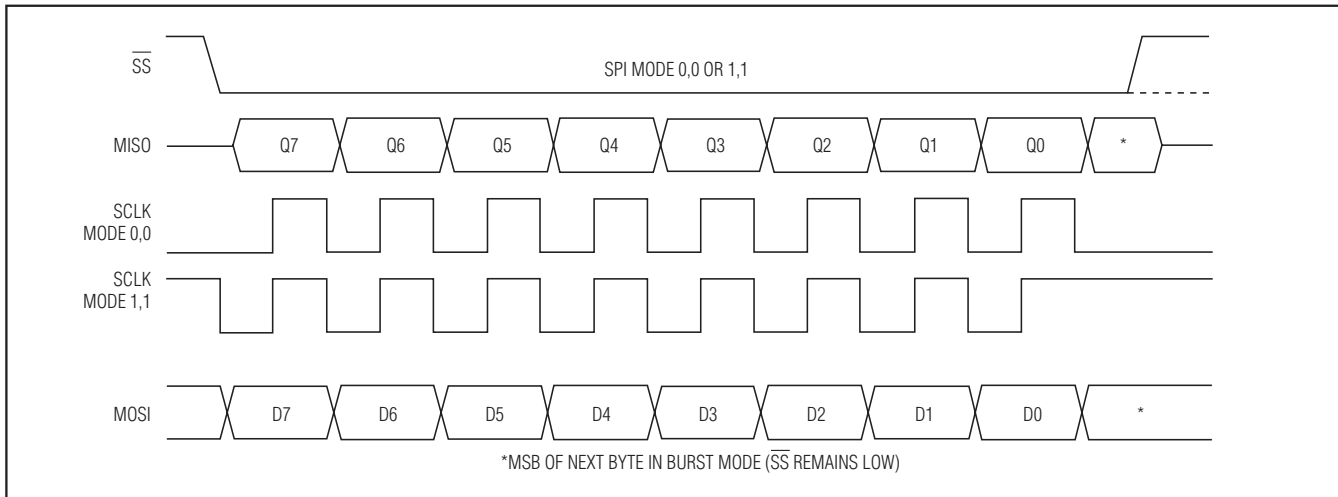

Figure 14. SPI Clocking Modes
The SPI master provides the MAX3420E SCLK signal to clock the SPI interface. SCLK has no low-frequency limit, and can be as high as 26MHz. The MAX3420E changes its output data (MISO) on the falling edge of SCLK and samples input data (MOSI) on the rising edge of SCLK. The MAX3420E ignores SCLK transitions when $\overline{SS}$ is high. The inactive level of SCLK may be low or high, depending on the SPI operating mode (Figure 14).
The MAX3420E SPI interface operates without adjustment in either SPI mode (CPOL = 0, CPHA = 0) or (CPOL = 1, CPHA = 1). No mode bit is required to select between the two modes since the interface uses the rising edge of the clock in both modes. The two clocking modes are illustrated in Figure 14. Note that the inactive SCLK value is different for the two modes. Figure 14 illustrates the full-duplex mode, where data is simultaneously clocked into and out of the MAX3420E.
- (1) When $\overline{SS}$ is high, the MAX3420E is unselected and tri-states the MISO output.
- (2) After driving SCLK to its inactive state, the SPI master selects the MAX3420E by driving $\overline{SS}$ low. The MAX3420E turns on its MISO output buffer and places the first data bit (Q7) on the MISO output (Figure 14).
- (3) The SPI master simultaneously clocks the command byte into the MAX3420E MOSI pin, and USB status bits out of the MAX3420E MISO pin on the rising edges of the SCLK it supplies. The MAX3420E changes its MISO output data on the falling edges of SCLK.
- (4) After eight clock cycles, the master can drive $\overline{SS}$ high to deselect the MAX3420E, causing it to tri-state its MISO output. The falling edge of the clock puts the MSB of the next data byte in the sequence on the MISO output (Figure 14).
- (5) By keeping $\overline{SS}$ low, the master clocks register data bytes out of the MAX3420E by continuing to supply SCLK pulses (burst mode). The master terminates the transfer by driving $\overline{SS}$ high. The master must ensure that SCLK is in its inactive state at the beginning of the next access (when it drives $\overline{SS}$ low). In full-duplex mode, the MAX3420E ignores data on MOSI while clocking data out on MISO.